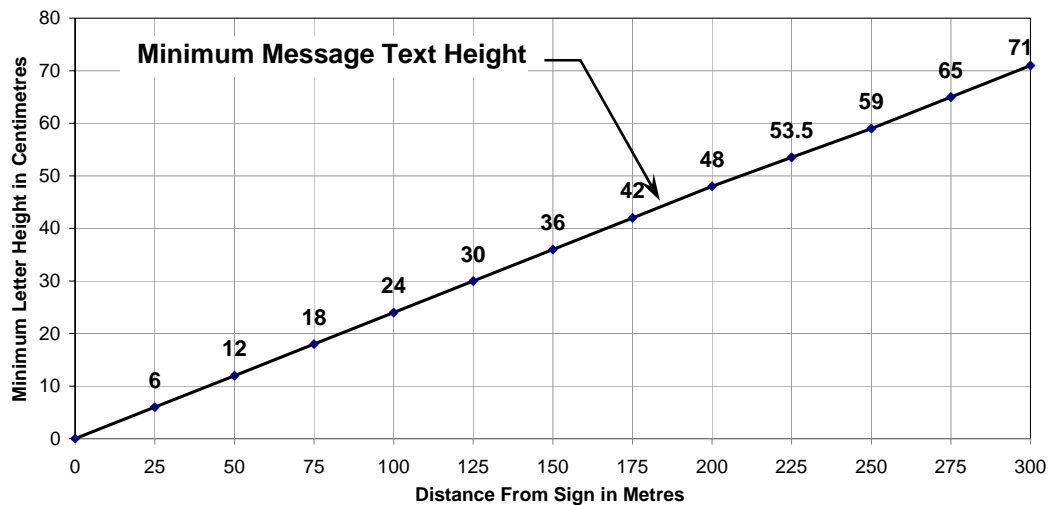

Figure 1A - Viewing Distance Vs Message Text Size
- The size of a sign is determined by the maximum viewing distance with a minimum one centimetre of message text height (capital letter) for every 4.1 meters of viewing distance. See Figure 1A below.
- Figure 1A is provided as a guide for determining the size of lettering required for the “message text”.